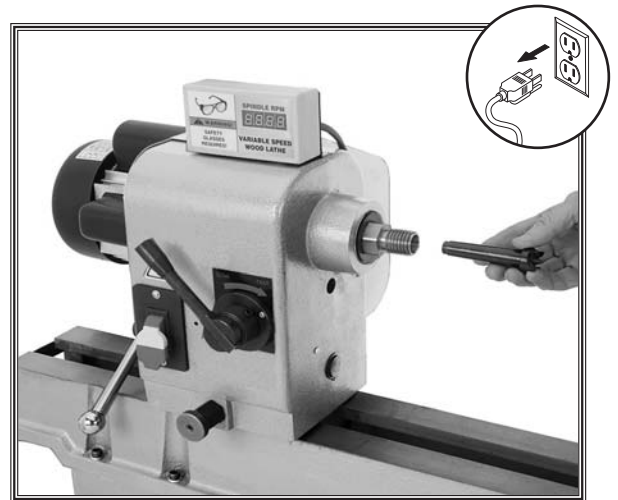

Figure 18. Installing the headstock center.
5. Insert the tapered end of the center into the spindle, and push it in with a quick, firm motion (see Figure 18).